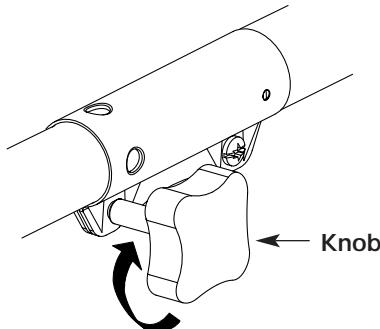

Fig. 7
- Turn the knob clockwise to tighten (Fig. 7).